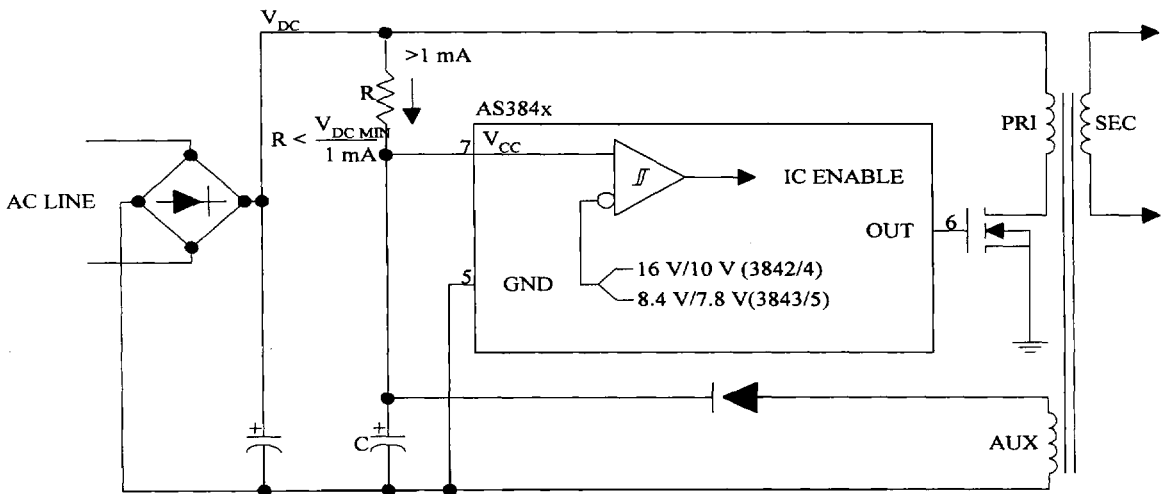

Figure 14. Bootstrap Circuit
The low quiescent current standby mode of the AS3842 allows "bootstrapping" ---a technique used in off-line converters to start the IC from the rectified AC line voltage initially, after which power to the IC is provided by an auxiliary winding off the power supply's main transformer. Figure 14 shows a typical bootstrap circuit where capacitor (C) is charged via resistor (R) from the rectified AC line. When the voltage on the capacitor ( $V_{CC}$ ) reaches the upper UVLO threshold, the IC (and hence, the power supply) turns on the voltage on C begins to quickly discharge due to the increased operating current. During this time, the auxiliary winding begins to supply the current necessary to run the IC. The capacitor must be sufficiently large to maintain a voltage greater than the lower UVLO threshold during start up. The value of R must be selected to provide greater than 1 mA of current at the minimum DC bus voltage ( $R < V_{DCmin}/1 \text{ mA}$ ).